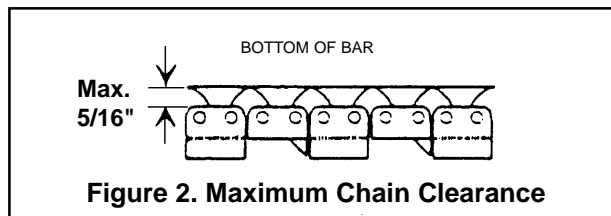

Figure 2. Maximum Chain Clearance
1. Make sure the chain does not exceed a clearance of 5/16 in./1.6 mm from the bar. See figure 2. Exceeding this clearance increases the chance of the chain being dislodged from the bar groove. To properly adjust the bar and chain, see "MAINTENANCE AND ADJUSTMENTS" later in this manual.